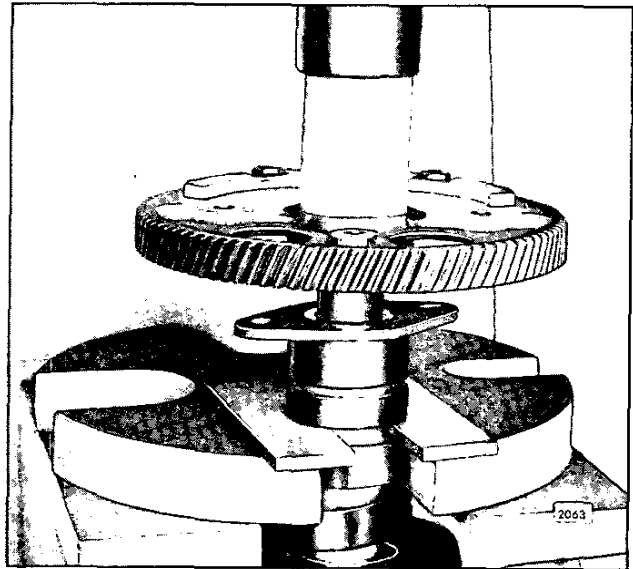

Fig. 2 - Installing Camshaft Gear
5. Then, with the camshaft supported in an arbor press, place a sleeve on top of the gear and press the gear tight against the spacer on the shaft (Fig. 2).